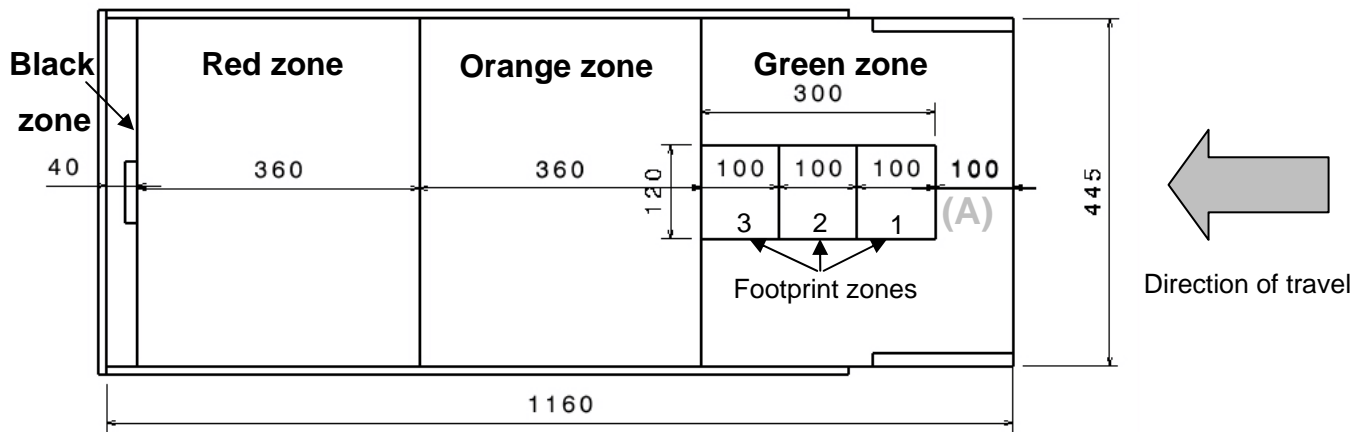

Figure 1: Location of zones on the crash board
5. The car will be driven down the track and impact with the device near point (A) shown in Figure 1.